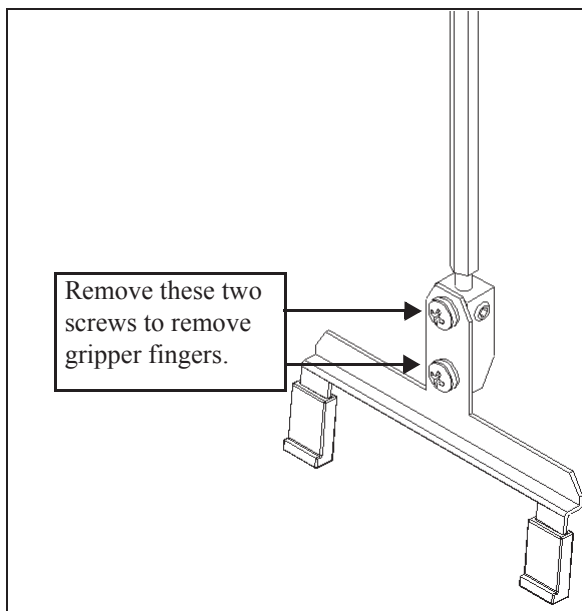

Figure 23-9 Screws to remove when replacing gripper pads
2. Unscrew the fingers from the gripper shaft (Figure 23-9).